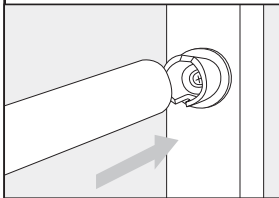

Fig. 3
4. Apply aluminum adhesive and insert the straight return into the handrail lineal (Fig. 3).